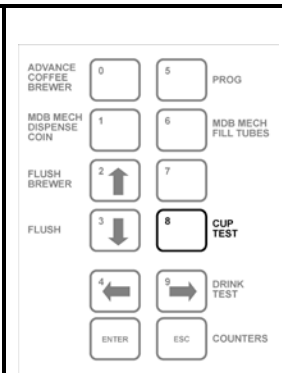

Figure 9c. Keypad Cup Test
4. Find the internal keypad on the left side of the door (as viewed from the rear of the door). Press the square marked "8" right next to "CUP TEST". See **Figure 9c**.